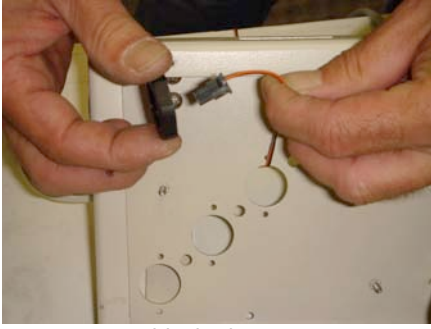
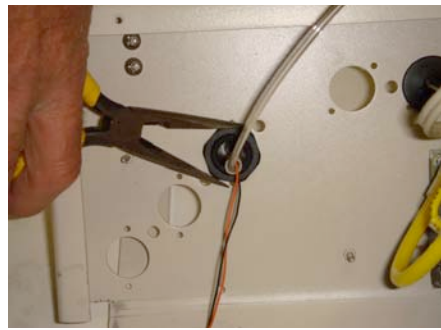

Fig.7 Remove black plastic nut
Fig.6 Loosen plastic nut
6. Locate bulkhead inside cart and loosen the black plastic nut with Needle nose pliers turning counter clock-wise, then remove. (Fig.6)(Fig.7)